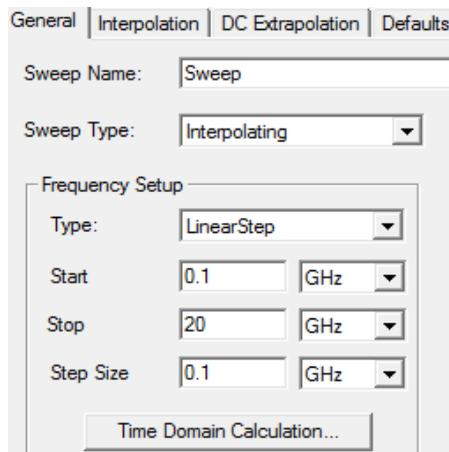

Figure 3. Edit Frequency Sweep
- 2 Enter the following fields as shown in Figure 3.